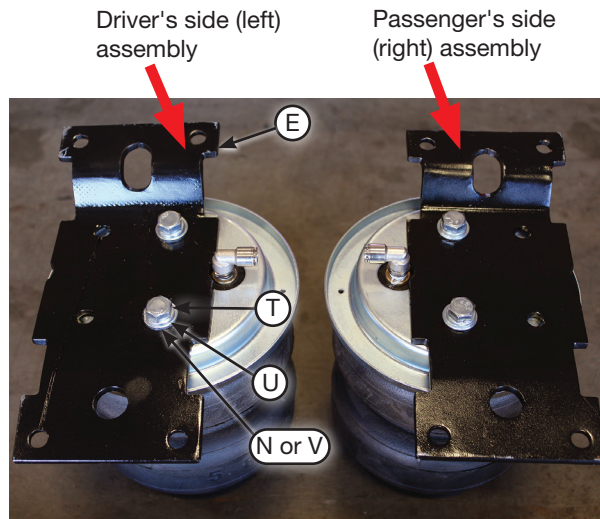

fig. D.8
2. Set the upper air spring bracket (E) onto the top of the air spring using one set of holes with the 3/8"-24 x 7/8" hex-cap screw (T), 3/8" lock washer (U) and 3/8" flat washer (N or V) (Fig D.8). Install the remaining air spring bracket onto the remaining air spring, using the opposite holes from those that were previously used. This makes the air spring assemblies into left- and right-hand units. Torque the hardware to no more than 20 lb.-ft. (27Nm).